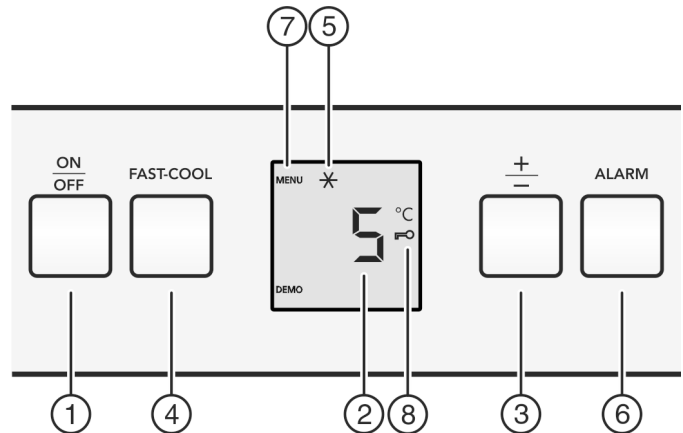

Fig. 2
- ▶ Press the On/Off button Fig. 2 (1).
- ▶ Press the Fast Cool button *Fig. 2 (4)* for approx. 5 seconds.
- ▷ The Menu symbol is shown on the display, *Fig. 2 (7)*.
- ▶ Briefly confirm using the Fast Cool button *Fig. 2 (4)*.
- ▷ The child lock symbol, *Fig. 2 (8)*, lights up on the display.
- ▶ Briefly press the On/Off button *Fig. 2 (1)*.
- ▶ Press alarm button *Fig. 2 (6)*.
- ▶ Call up the temperature function: Press the "+/-" setting button *Fig. 2 (3)*.
- ▶ Change the temperature in 1 °C steps: Press the "+/-" setting button *Fig. 2 (3)* until the required temperature is indicated in the temperature display.
- ▶ Briefly press the Fast Cool button *Fig. 2 (4)*.
- ▷ The Fast Cool symbol *Fig. 2 (5)* illuminates in the display.
- ▷ The Fast Cool symbol *Fig. 2 (5)* goes out in the display.